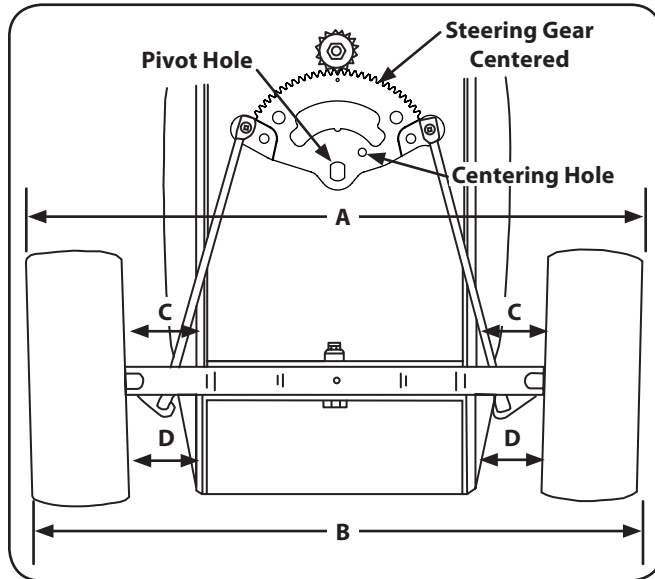

Figure 6-9
The front wheels should toe-in approximately $\frac{1}{8}$ to $\frac{1}{4}$ ", as measured across dimensions A and B. See Figure 6-9.
1. Check the steering gear to ensure it is in the centered position. The hole in the steering segment gear will align with the hole in the steering housing (See Figure 6-9).
3. Measure the distance between the bottom edges of the tractor frame channels and the marks on the front of each wheel (See measurement D in Figure 6-9). These two measurements should be equal.
4. Measure the distance between the frame and the marks on the rear of each front wheel (See measurement C in Figure 6-9). Measurement D should be approximately $\frac{1}{16}$ - to $\frac{1}{8}$ -inch less than measurement C on each side of the tractor.